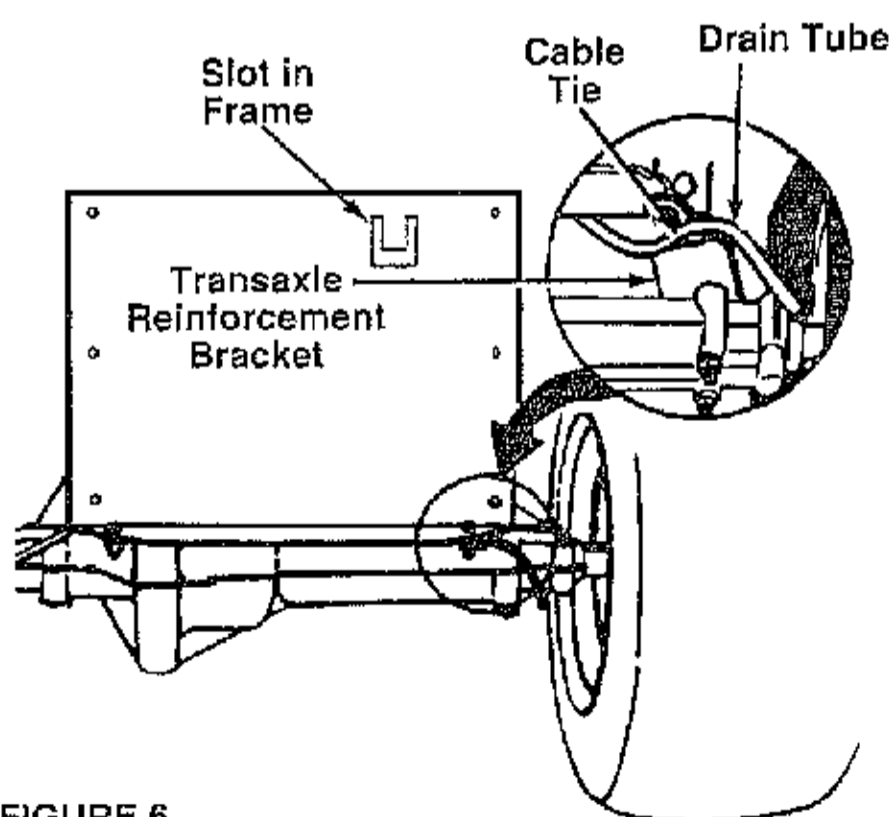

FIGURE 6.
6. Secure battery by hooking battery strap into slot in rear frame, under the fender. See figure 6.
7. Insert the drain tube through the hole in the transaxle bracket or through the cable tie (if so equipped) which is attached to the transaxle reinforcement bracket on the right side of the unit. See figure 6. Be certain drain tube is routed away from the wheel rim.